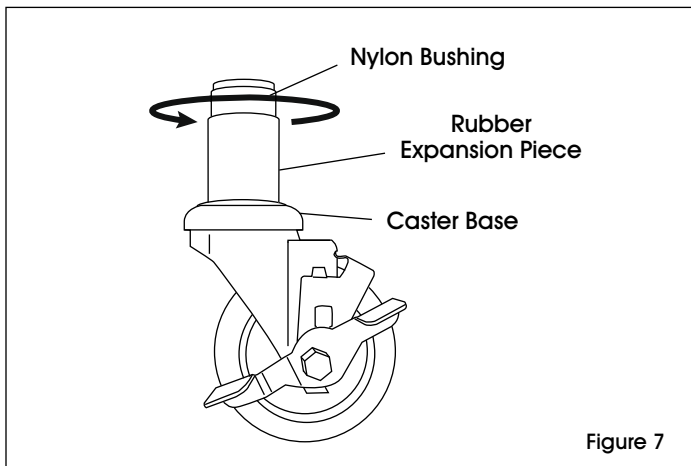

Figure 7
2. Hold caster base and rotate nylon bushing clockwise. This will cause the rubber piece to expand. (See Figure 7)